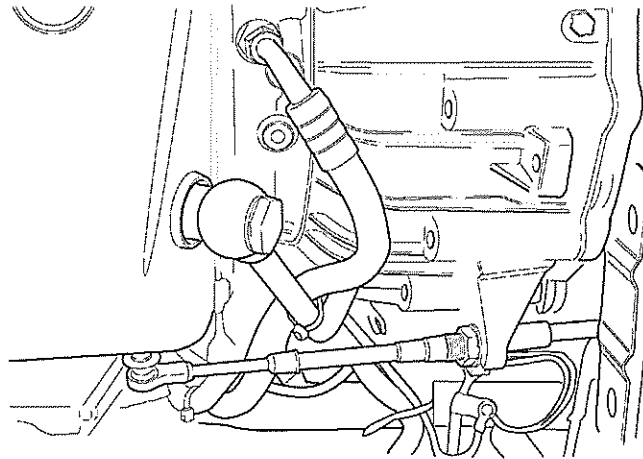

Fig 1 Selector cable
- 7.1 Press off selector cable from lever (see Fig 1).